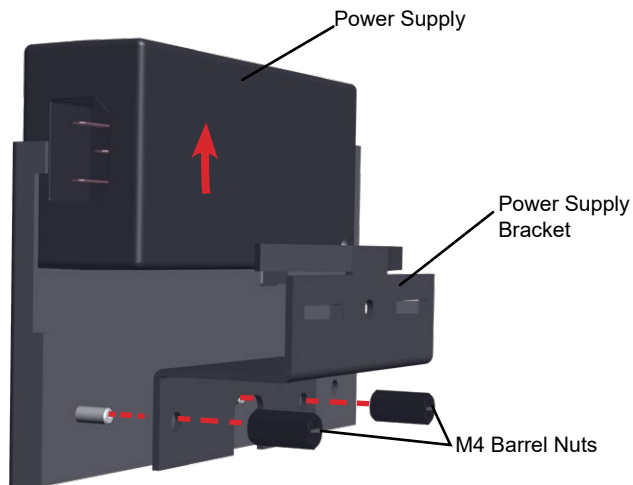

Figure 7. Remove bracket and power supply from long rack ear
2. Disconnect the power supply supporting bracket from the longer (R) rack mount bracket (Figure 7). Reserve the barrel nuts for reattachment to the wall bracket.